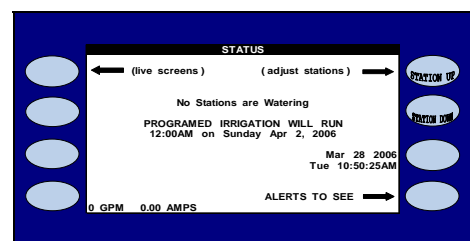

**Figure 6.8**
**Note:** Press the **STAR** key to access the **WHICH ALERTS TO SEE** screen which will give you a presorted view of the alerts based on alert type (Figure 6.8).